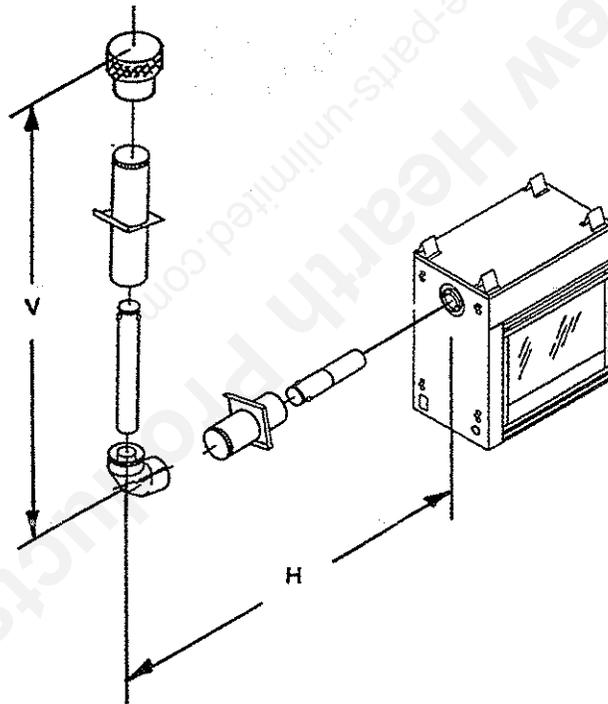

FIGURE 6
Figure 6 and Table 3 show examples of possible installation using one (1) 90-degree elbow. Dimension V is listed as **MINIMUM** vertical dimensions and dimension H is listed as corresponding **MAXIMUM** horizontal dimensions. Vertical dimensions are based on centerline to centerline of pipe. Horizontal dimensions are based on back of the unit to centerline of pipe. If one 90-degree elbow is used in a vent system, a vertical termination will result.